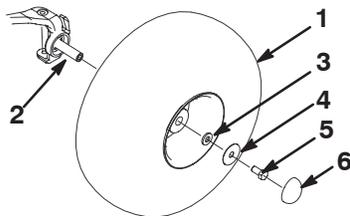

Figure 3
4. Mount the wheels with the previously removed fasteners (Fig. 3) and torque the bolts to 135–165 ft-lb (183–224 N·m).